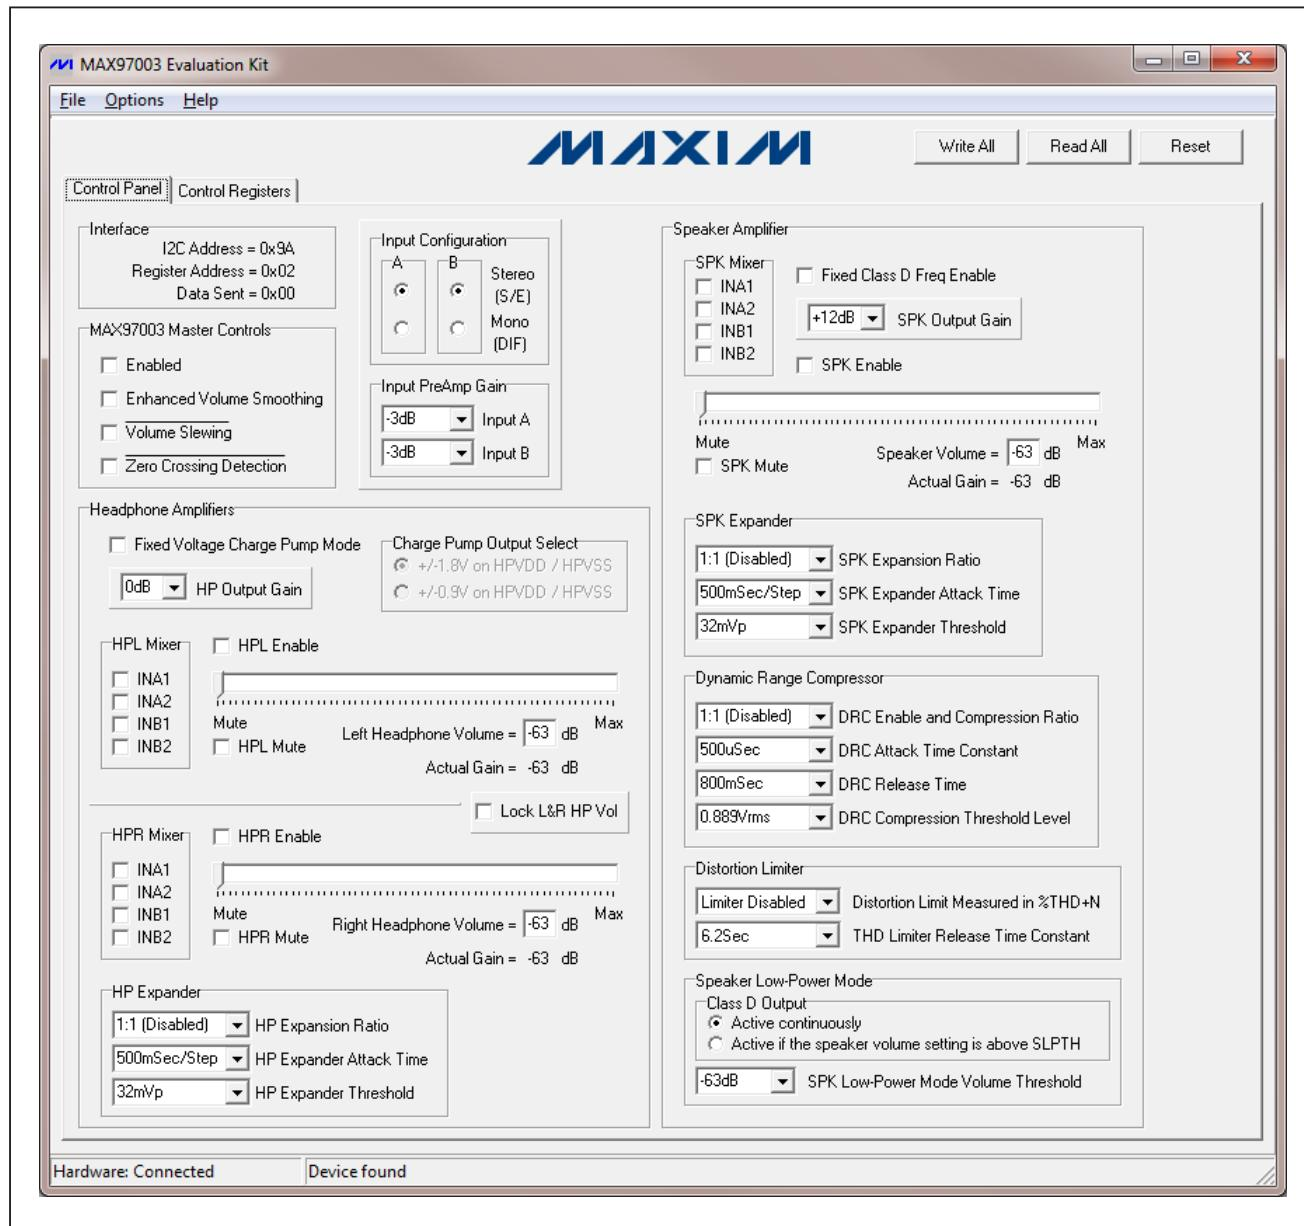
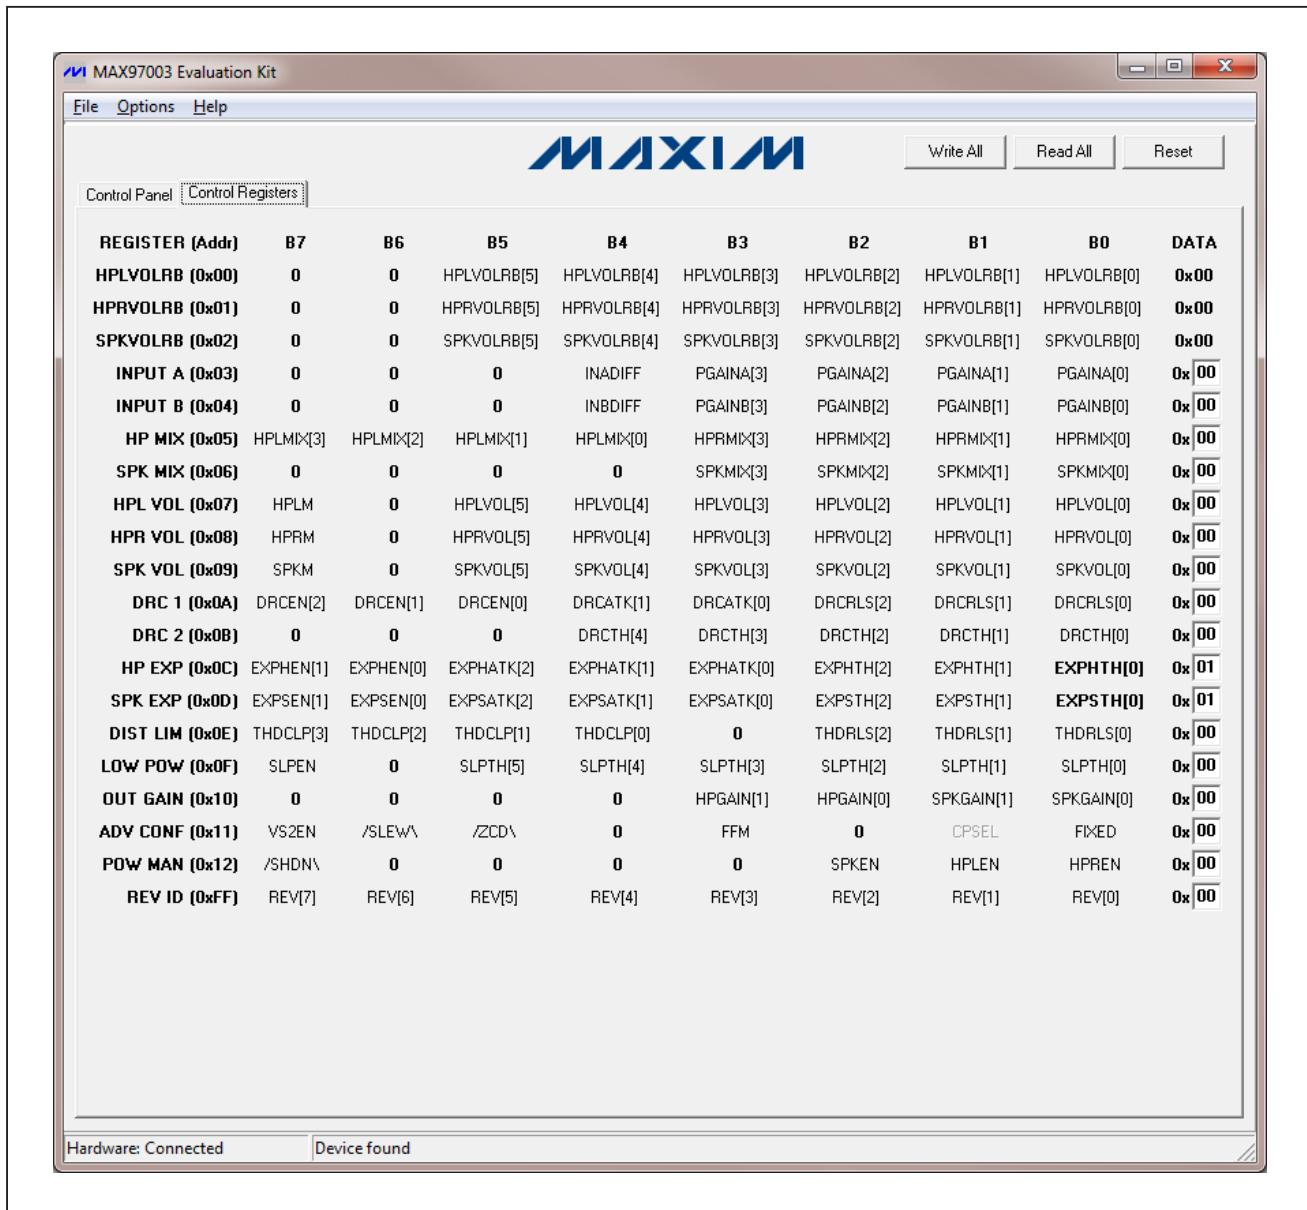

Figure 2. MAX97003 EV Kit Software Main Window (Control Panel Tab)
Figure 3. MAX97003 EV Kit Software Main Window (Control Registers Tab)
- 11) Start the EV kit software by opening its icon in the **Start | Programs | Maxim EVKITSoftware** menu. The EV kit software main window appears, as shown in Figure 2.
The MAX97003 EV kit software GUI provides a convenient way to test the features of the MAX97003. Figure 2 displays the EV kit software's Control Panel tab sheet, while Figure 3 displays the Control Registers tab sheet. Actions on either of these two tabs generate I2C commands to update the device's internal memory registers.